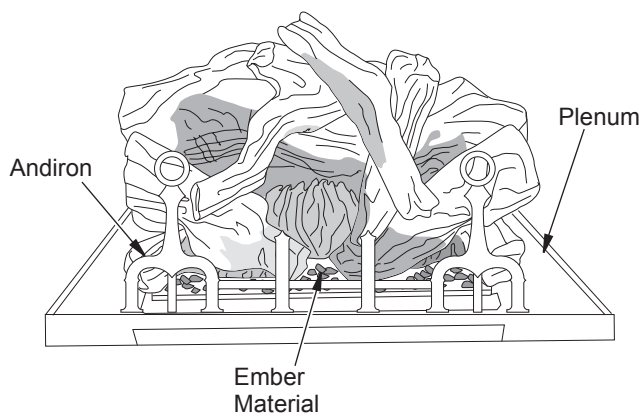

Figure 43 - Placing Ember Material on Burner
1. Pull ember material apart into pieces no larger than a dime. Place these pieces loosely and sparingly directly onto the exposed front section of the burner (see Figure 43). This will create the glowing ember appearance as the flame touches the ember material. Do not block air slots by using too much ember material in one area. It is not necessary to use all of the ember material provided.